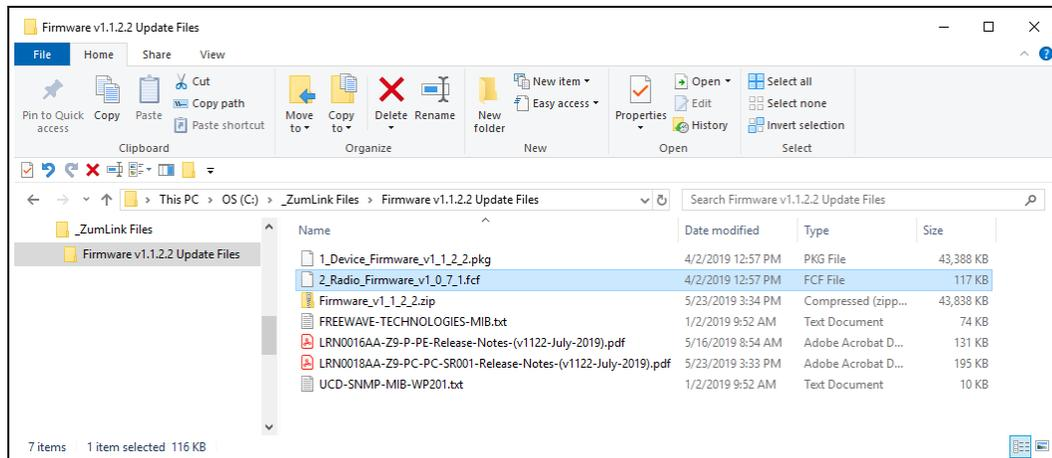

Figure 25: Selected 2_Radio_Firmware_v1_0_7_1.fcf File
9. Locate and select the downloaded **2_Radio_Firmware_v1_0_7_1.fcf** update file. Figure 25